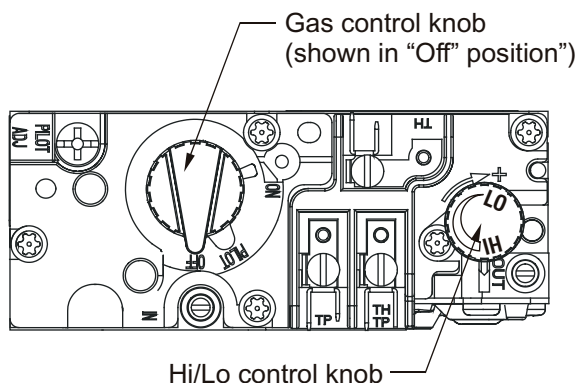

Figure 15. 'Hi-Lo' Adjustment on the Hotshot inset's gas valve.
Hotshot inserts are equipped with an adjustable burner, allowing you to increase or decrease the amount of flames and heat output. To adjust the flames, locate the black knob marked 'Hi-Lo', on the right side of the gas control valve (See Figure 15).
- Have the fireplace installation inspected yearly, including a visual check of the insert and vent system, the burner and the pilot flame. For your convenience a 1/8" manifold pressure tap is supplied on the gas valve for a test gauge connection. See Figure 15.